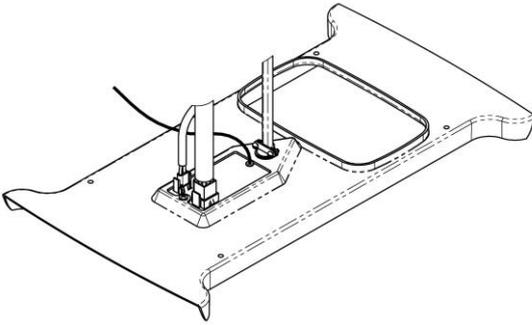

Figure 7
- C. Raise the ceiling assembly chute and insert the supply wiring through the cable clamp and into the wiring box so that 4-6" of supply conductor is inside the box. Secure the cable clamp over the supply wire sheath so that no movement is possible (See Figure 7).
- F. Plug the heat pump electrical conduit into the 9 position receptacle as shown in Figure 7.
receptacle and plug the heater cord into receptacle as shown in Figure 7.